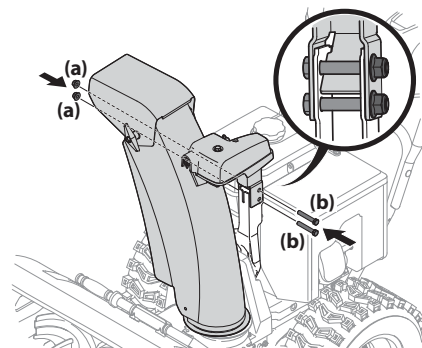

Figure 2-36
2. Place chute assembly onto chute base and chute control head onto chute support bracket. See Figure 2-36.
3. Secure chute control head to chute support bracket with lock nuts (a) and hex screws (b) removed in Step 1. See Figure 2-36.